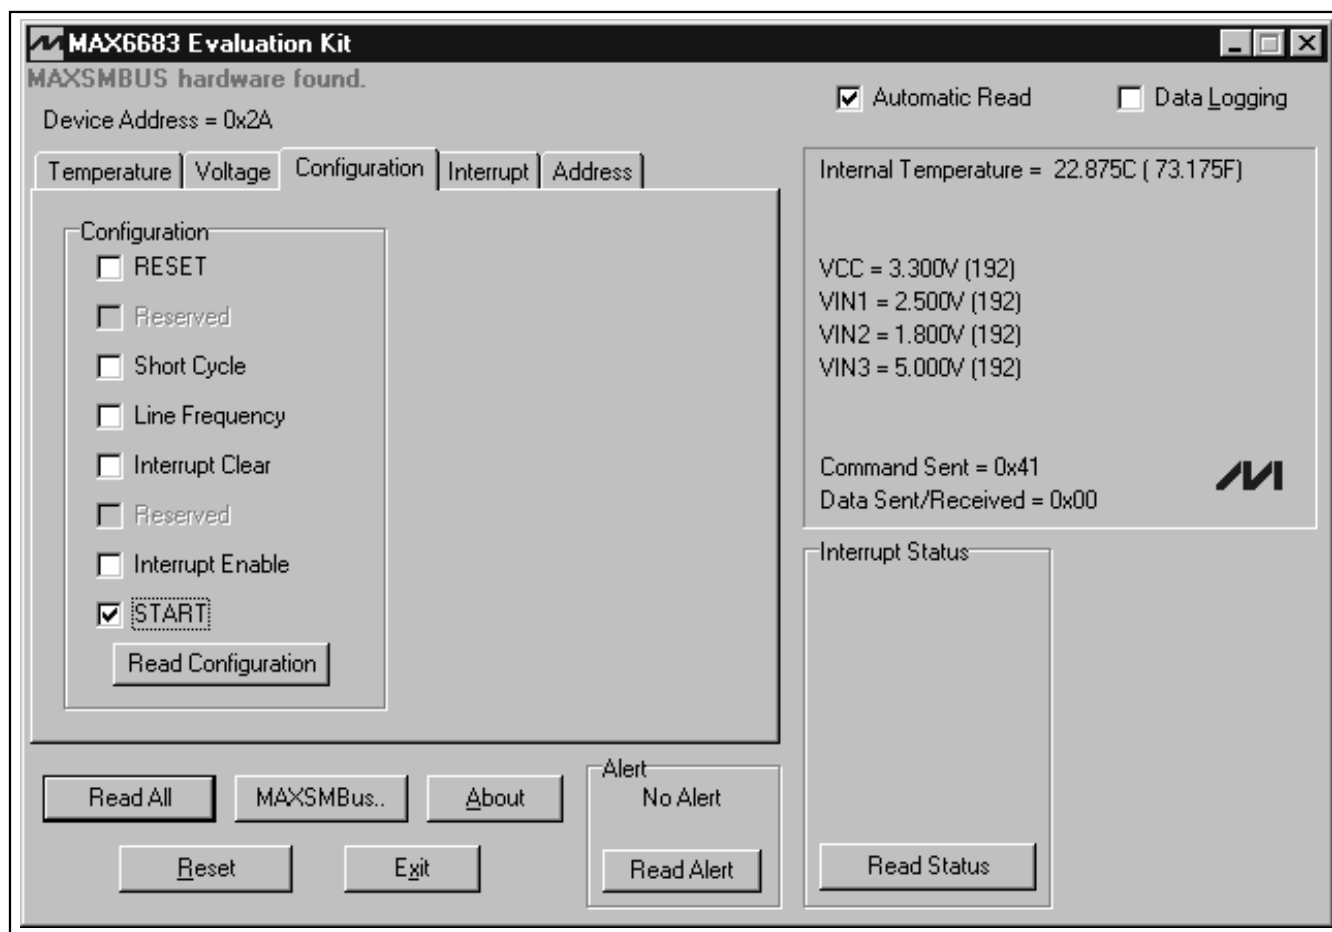

Figure 2. MAX6683 EV Kit Configuration Display
- 15) Select the **Configuration** tab on the panel (Figure 2). Uncheck the **Interrupt Clear** checkbox.